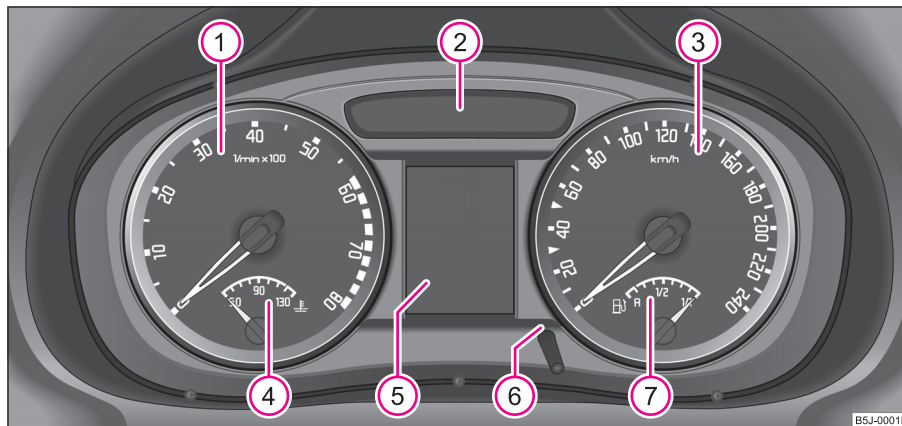
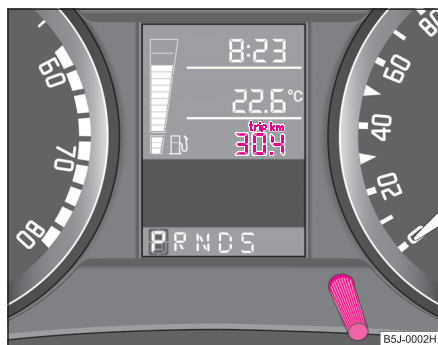

Fig. 2 Instrument cluster
Fig. 3 Display: Counter for distance driven
The start of the red zone in the revolutions counter ① ⇒ page 13, fig. 2 indicates the maximum permissible engine speed for all gears for an engine which has been run in and operating at a normal temperature. You should shift into the next higher gear before this red zone is reached, or move the selector lever into position **D** if your car is fitted with an automatic gearbox.
The coolant temperature gauge ④ ⇒ page 13, fig. 2 operates only when the ignition is switched on.
The fuel gauge ⑦ ⇒ page 13, fig. 2 only operates when the ignition is switched on.
By briefly pressing the reset button  $\Rightarrow$ page 13, fig. 2 you can switch over from the trip counter to the kilometer counter. In order to recognize which counter for the distance driven is shown on the display at that moment, **trip** $\Rightarrow$ fig. 3 appears after the trip counter.
A reset button is installed on the left below beside the speedometer for adjusting the clock ⇒ page 13, fig. 2.